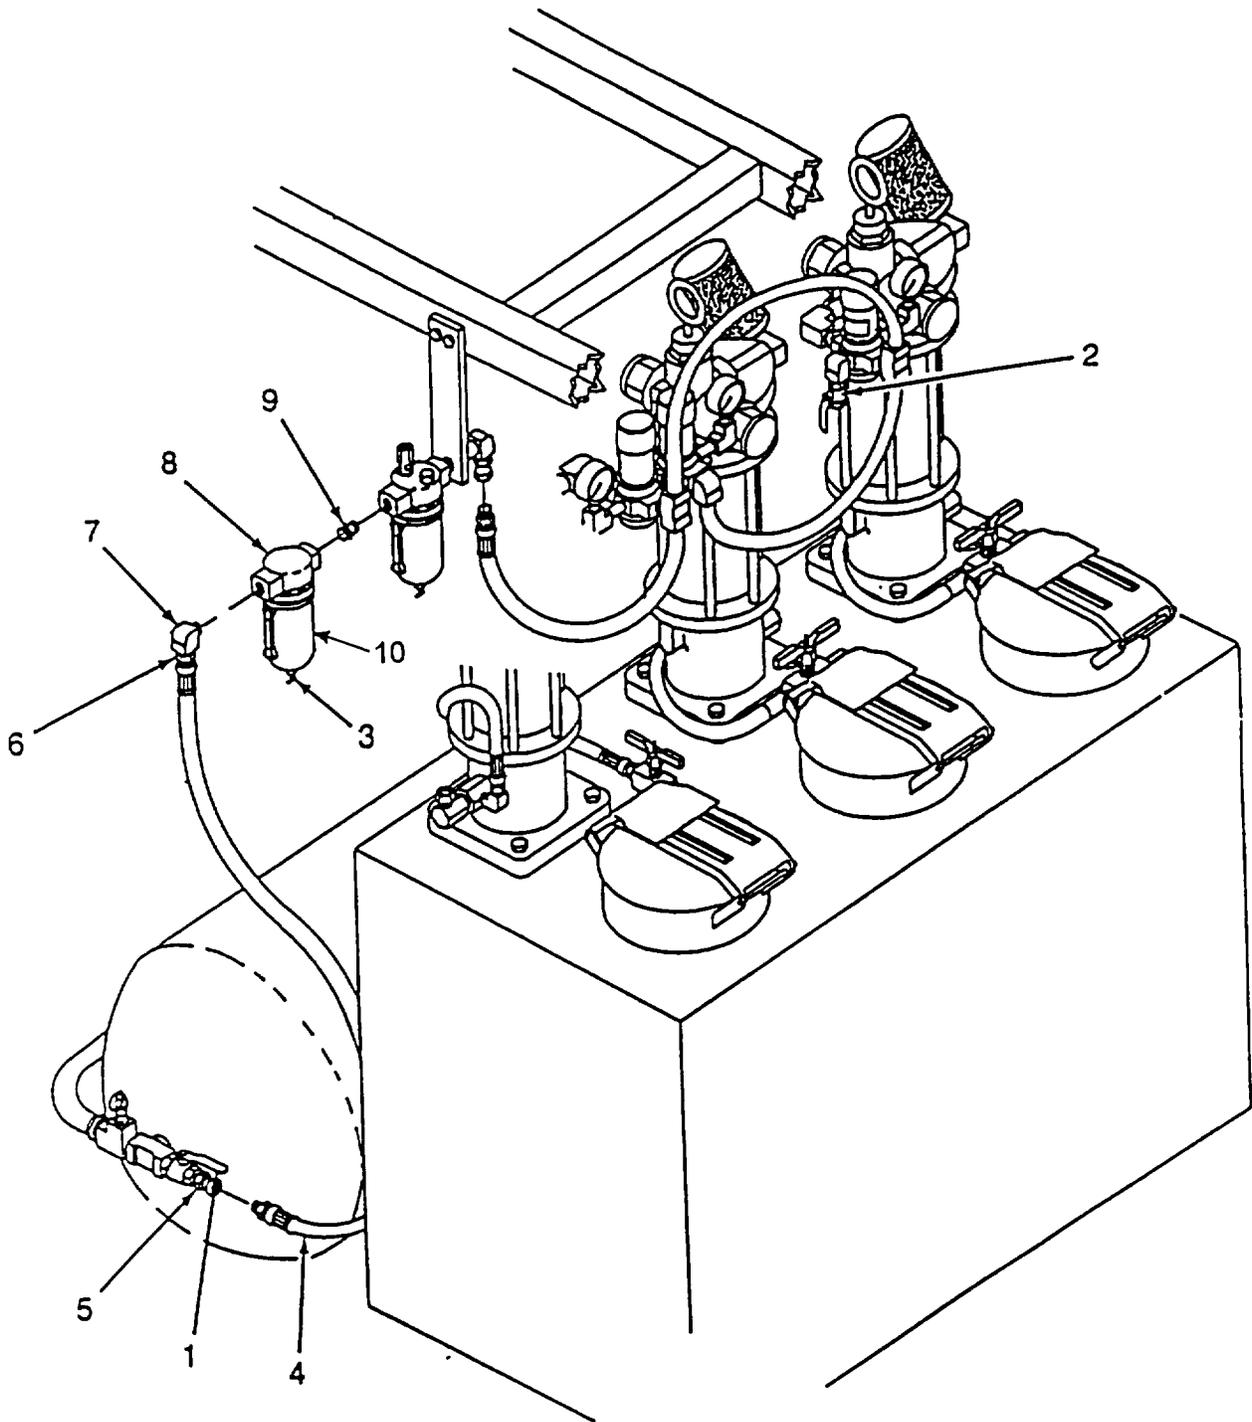

Figure 4-4. Air Filter/Moisture Separator
**a. Removal. (Refer to Figure 4-4.)**
- (1) Shut off air flow by turning ball valve handle (1) to "off" position.
- (2) Vent air pressure completely by turning lever (2) to "open" position.
- (3) Open petcock drain (3) and drain moisture.
- (4) Unscrew air filter reservoir bowl (10).
- (5) Disconnect hose (4) at swivel adapters (5 and 6).
- (6) Remove swivel adapter (6) and street elbow (7) from air moisture separator (8)
- (7) Remove air moisture separator (8) from nipple (9).
**Before installation, wrap nipple (8) threads with Teflon Tape.**